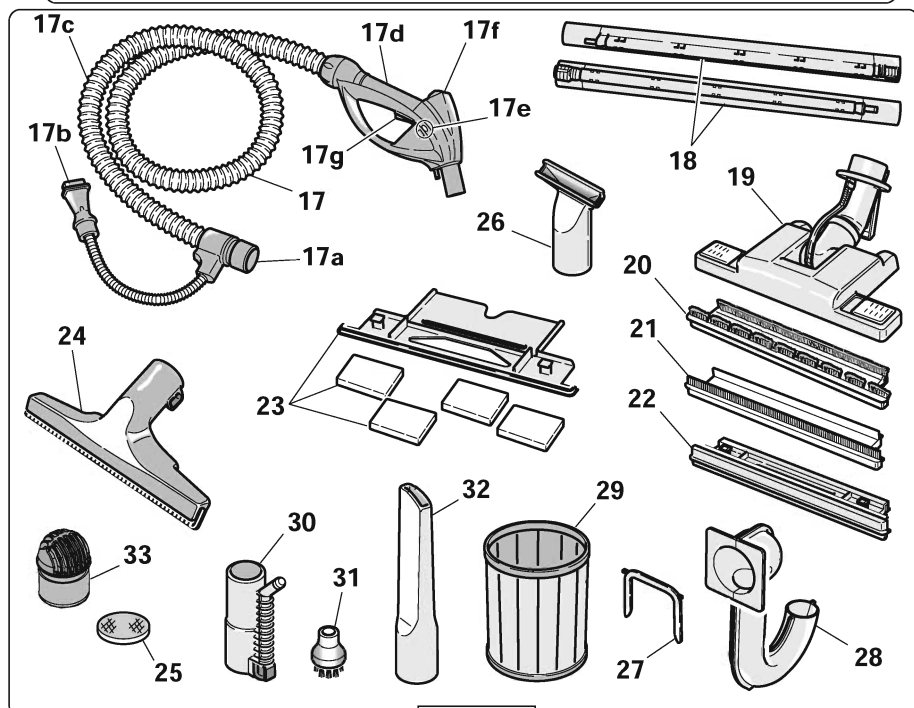

Fig. 02
Supplied Accessories (fig. 02):
CLEANING HEAD WITH BRISTLES (fig. 02 - pos.20) - Use this accessory with the Universal Brush, to vacuum flat surfaces such as marble or tiled floors etc.
CLEANING HEAD WITH RUBBER FOR LIQUIDS (fig. 02 - pos. 21) - Use this accessory with the Universal Brush to vacuum liquids from flat surfaces.
CLEANING HEAD WITH FLAT BRUSH FOR CARPETS (fig. 02 - pos. 22) - Use this accessory with the Universal Brush to clean all mats and carpets.
CLEANING HEAD WITH WOOL FELT FOR FLOOR BOARDS (fig. 02 - pos. 23) - Use this accessory with the Universal Brush to vacuum all flat and delicate surfaces such as floor boards.
WINDOW WASHER NOZZLE (fig.02 - pos.24) - Suitable for cleaning glass surfaces (mirrors, windows etc.)
SMALL MULTIPURPOSE NOZZLE (fig. 02 - pos. 26) - Use this accessory with the universal fittings-holder for cleaning mattresses, sofas, pillows, etc.
WASTE FILTER PIPE FORK HOLDER (fig. 02 - pos. 27) - The fork is required to block the waste filter pipe in the correct position.
WASTE FILTER PIPE (fig. 02 - pos. 28) - Thanks to the hole in the lower part, it mixes the dirt vacuumed with the water in the recovery tank, working as a natural filter (Venturi effect).
AIR OUTLET FILTER (fig. 02 - pos. 25) - For maximum efficiency, you are suggested to clean the filter regularly: Remove it from the cap, wash it under running water and leave it to dry before repositioning it into the blowing air output cap.
UNIVERSAL FITTINGS-HOLDER (fig. 02 - pos. 30) - This accessory is used for connecting the crevice tool or the small multipurpose nozzle.
NET FILTER (fig. 02 - pos. 29) - The use of this net filter is necessary for vacuuming both liquid dirt and solid/dry dirt (together with the waste filter pipe and with about 2 l. of clean water in the recovery tank).
CREVICE TOOL (fig. 02 - pos. 32) - Ideal for reaching the most difficult points like corners, radiators. Use this accessory with the universal fittings-holder.
MULTIUSE BRUSH WITH NYLON BRISTLES (fig. 02 - pos. 31) - Use this accessory with the universal fittings-holder for a better abrasive cleaning strength (e.g.: for cleaning tiled floors, cooking stoves).
ATTENTION : It is always necessary to use the net filter (fig. 02 - pos. 29).